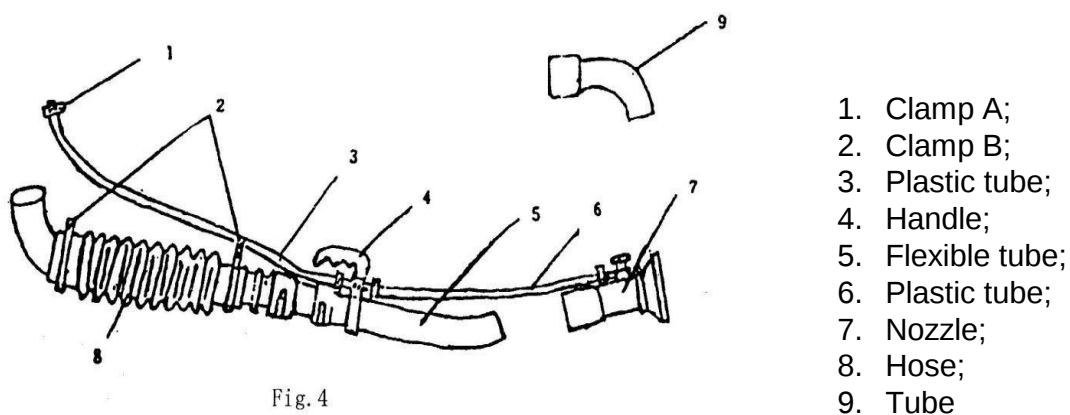

Fig. 4
1. Sealing washer 2. Connector 3. Pressure nut 4. Connect the spray tube to the device as shown in Fig. 4.